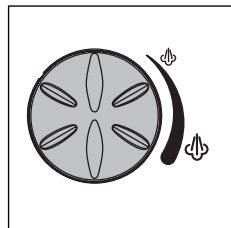

fig. 10
- Adjust the steam strength by using the steam emission dial (fig.10) on the base unit. To increase steam emission, turn the dial clockwise. When it can be turned no further it is at maximum.